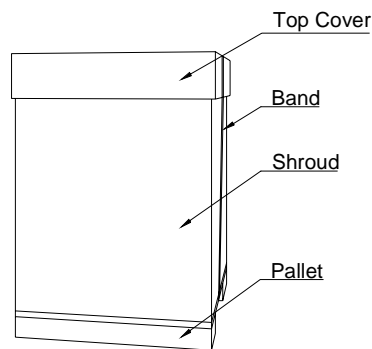

Figure 2.1
1. Cut strap band(s) and remove top cover and shroud. See Figure 2-1. Remove any accessories or documentation.